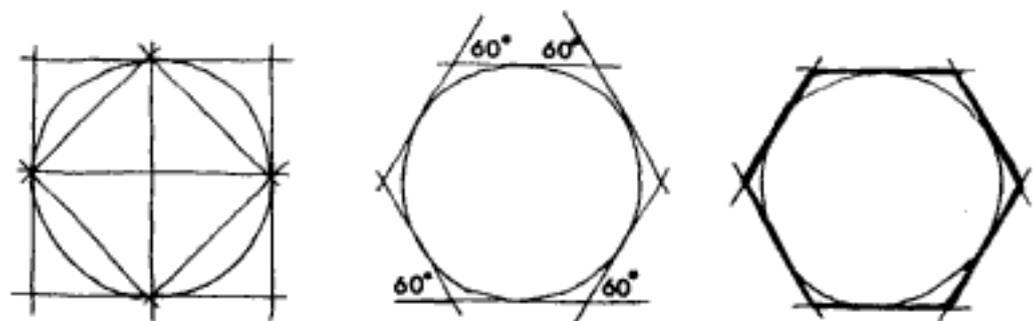

Fig 4.13
Step 2: Draw lines tangent to the circle at 60° as shown in fig 4.13.